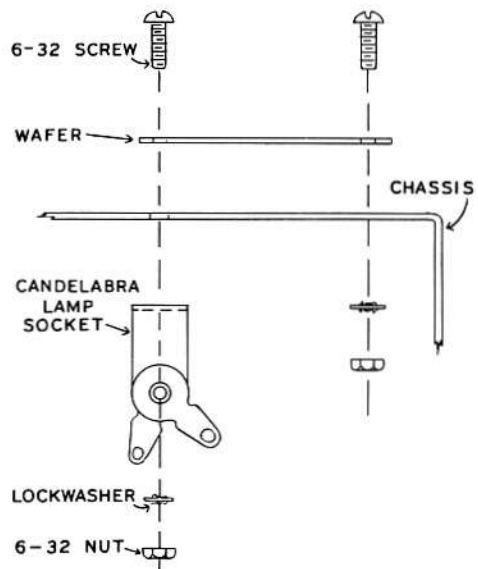

Figure 3
(X) Mount the condenser mounting wafer on top of the chassis. At the same time, install the candelabra lamp socket as shown in Figure 3.